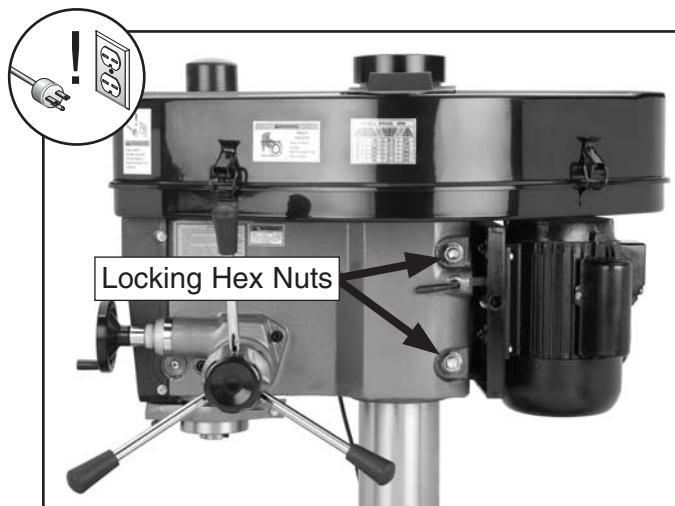

Figure 22. Head locking hex nuts.
2. Loosen the two head locking hex nuts shown in **Figure 22**.